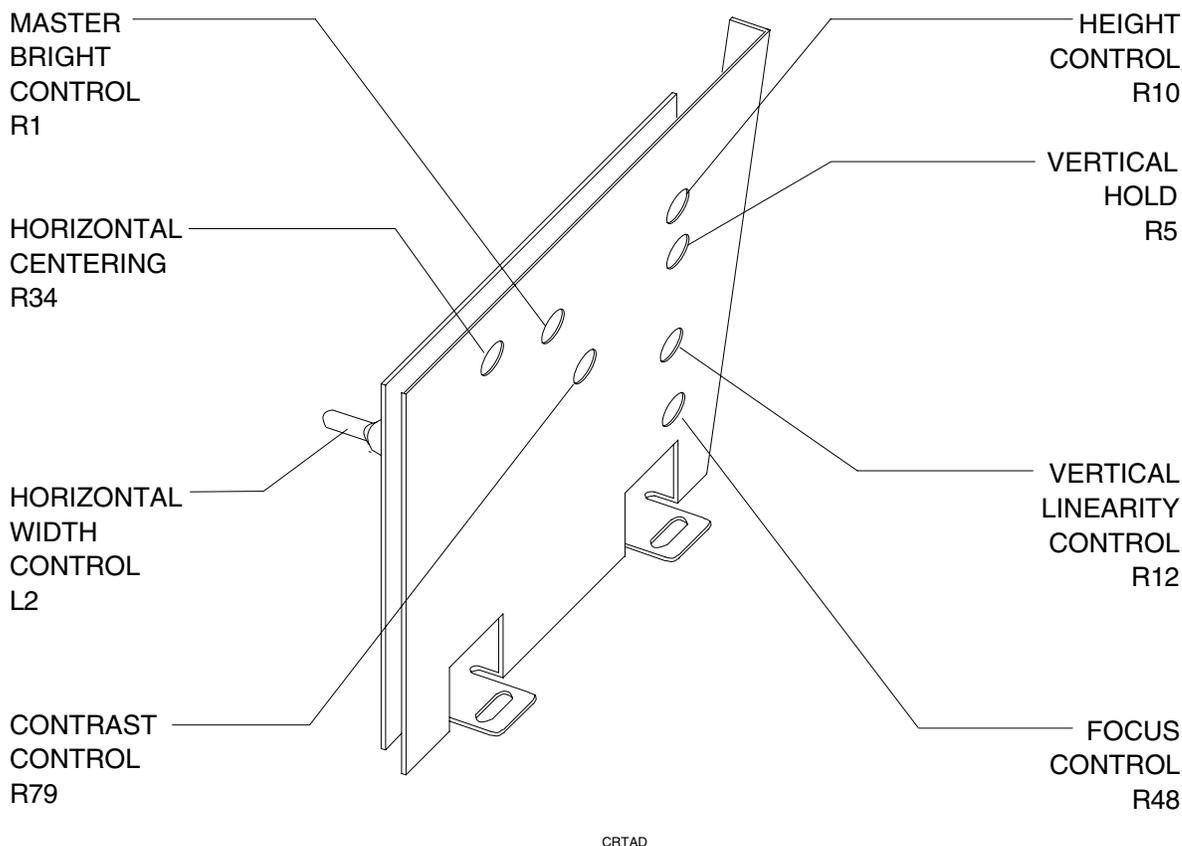

Figure 5-1: WELLS GARDNER CRT ADJUSTMENTS (EARLY MODELS)
- 5.1.3 Following is the CRT alignment procedure using the geometric pattern on the screen as a reference. Figure 5-1 shows the locations of the CRT adjustments on Wells Gardner assemblies. With the exception of horizontal width, the adjustments shall be done from the exterior side of the CRT assembly through the access holes in the chassis.